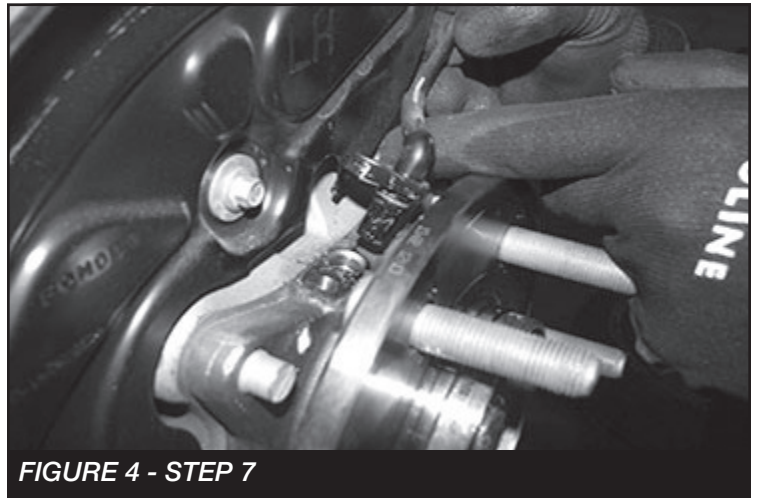

FIGURE 4 - STEP 7
7. Remove the brake caliper and place it next to the frame. Do not overstretch the brake hose when doing so. Retain the hardware for reinstallation. Remove the brake rotor and save. Disconnect the vacuum lines attached to the rear of the hub assembly. Allow the vacuum lines to hang freely. Remove the electronic stability control (ESC) sensor from the top of the hub. Cover the sensor to keep it free from dirt and debris. **SEE FIGURE 4**